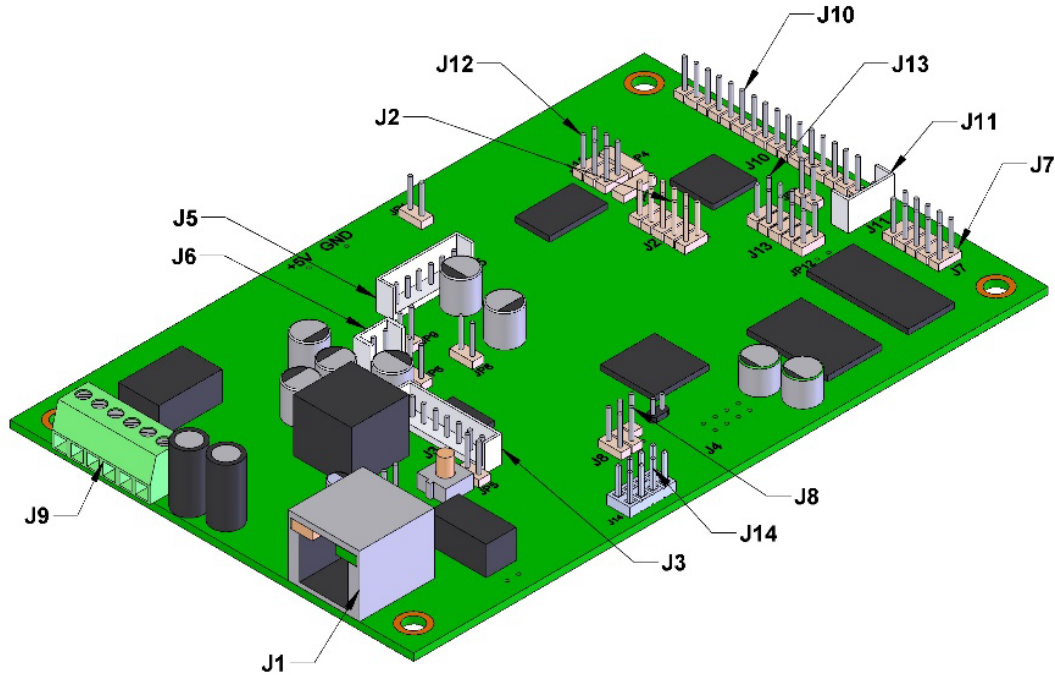

Figure 11 - Connector Locations
- The square, green **Link** light above the Ethernet port indicates that the network connection has been established (see Figure 11). The Link light changes color to confirm the auto-negotiated baud rate: